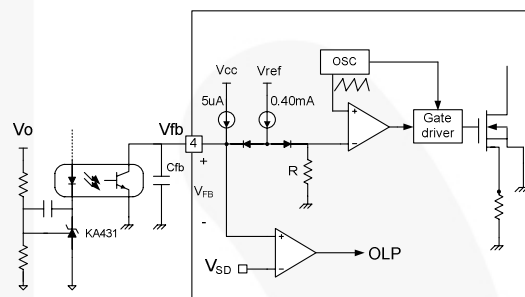

Figure 17. PWM and Feedback Circuit
**2. Feedback Control:** The FSDM311A is the voltage-mode controlled device, as shown in Figure 17. Usually, an opto-coupler and shunt regulator, such as KA431, are used to implement the feedback network. The feedback voltage is compared with an internally generated sawtooth waveform that directly controls the duty cycle. When the shunt regulator reference pin voltage exceeds the internal reference voltage of 2.5V, the opto-coupler LED current increases, the feedback voltage  $V_{FB}$  is pulled down, and it reduces the duty cycle. This happens when the input voltage increases or the output load decreases.